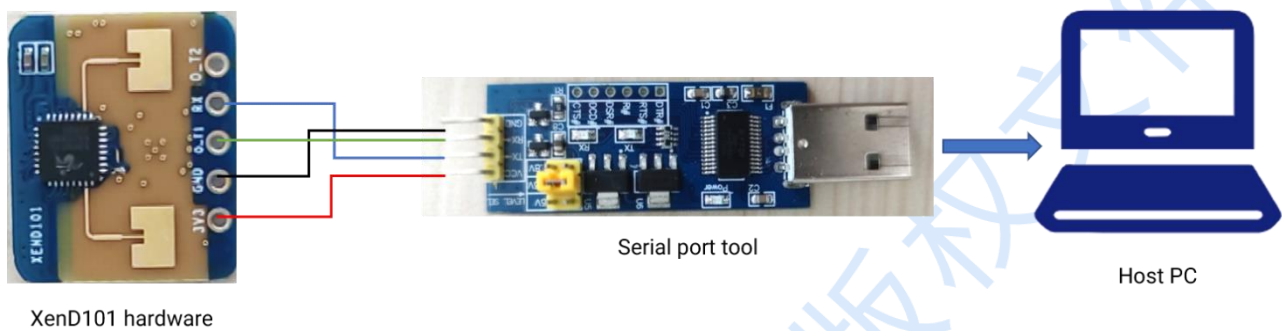

Figure 4-2 Connection between XenD101 hardware and host PC
- 1) Connect XenD101 hardware to the host computer using a serial port tool, as shown in Figure 4-2.